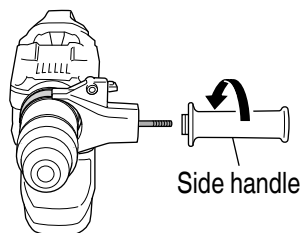

Fig. 17
- (4) Adjusting the band to a position that is suitable for the task, turn the side handle to fasten the band. Make sure that the band is securely fastened. (Fig. 17)